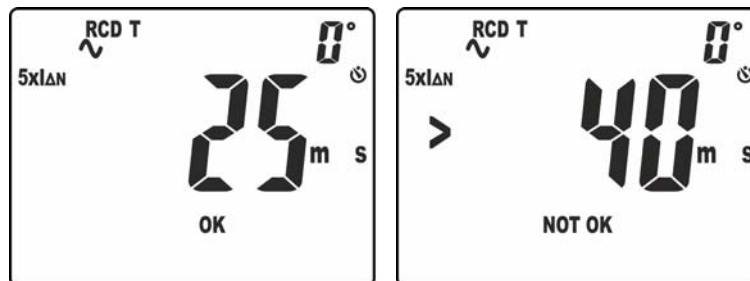

Fig. 36: Tripping time in manual mode at $5 \times I_{\Delta n}$
10. The correct measurement result is shown on the display (see Fig. 36 – left side) with indication “OK”
11. The wrong measurement result (**tripping time > 40ms**) is shown on the display (see Fig. 36 – right side) with indication “NOT OK”. The buzzer gives a short continuous sound
10. The correct measurement result is shown on the display (see Fig. 36 – left side) with indication “OK”. Notice the presence of tripping time on the top of the display on the right side.
11. The wrong measurement result is shown on the display (see Fig. 36 – left side) with indication “NOT OK” (**tripping current > 33mA**). The buzzer gives a short continuous sound